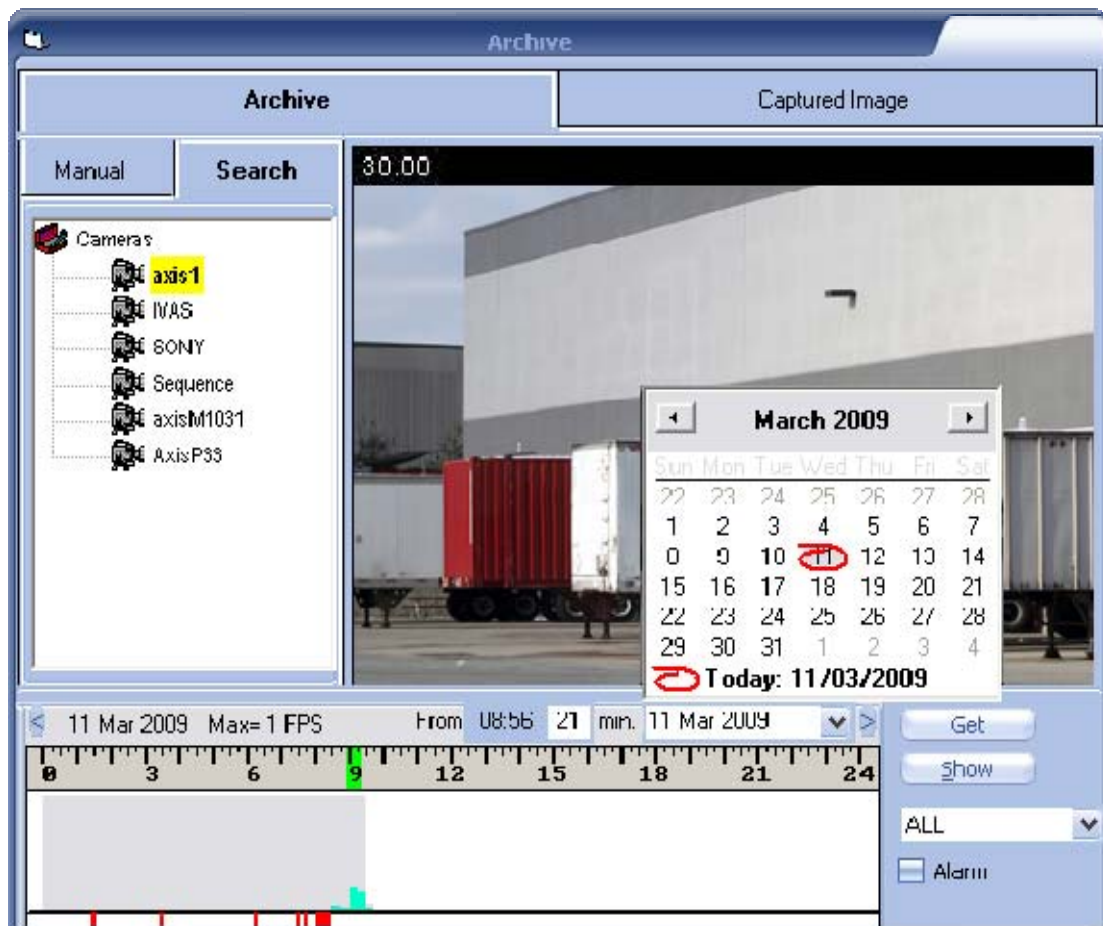

Fig 118. Remote Detexi Client — Archive Tool
1. On the **Client Start Page** press **ARCHIVE** button — the Archive Tool built into the Client launches (Fig 118).
1. To select the segment of video for viewing, **right-click and drag** on the time line above the Video Bar Graph to highlight the time segment of interest. If no segment is selected, all video in the current view is considered selected (Fig 118).